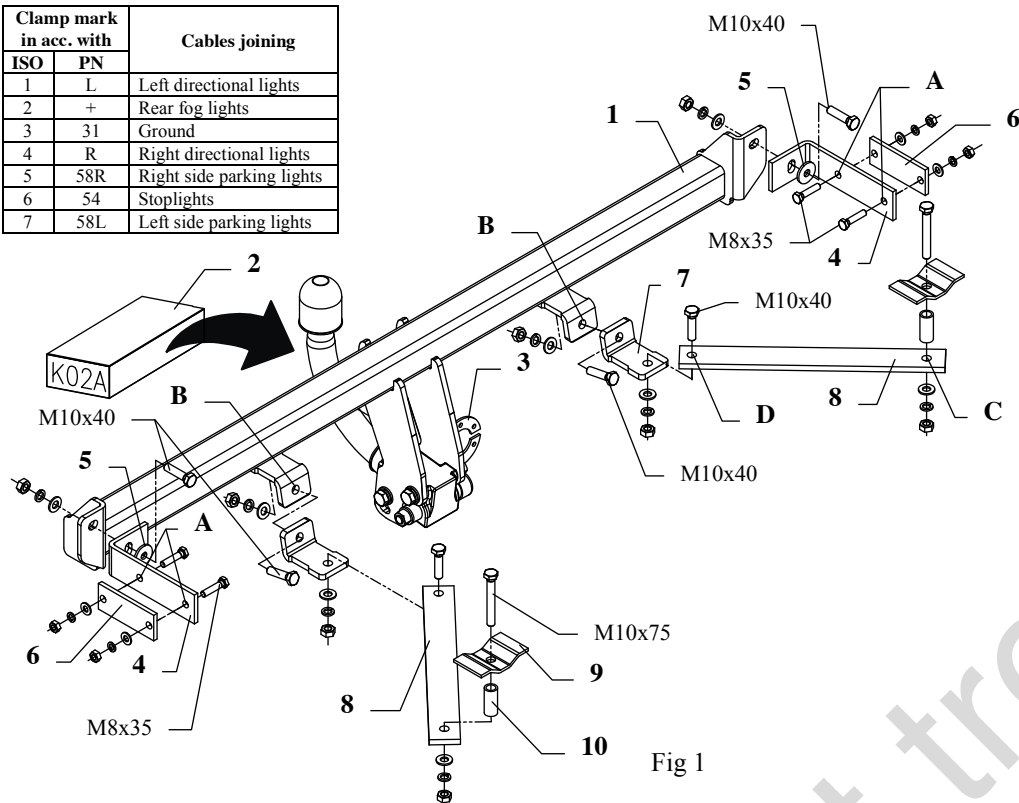
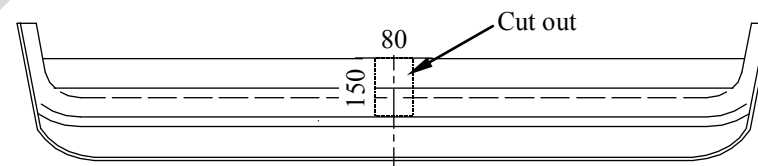

Fig 1
Fig. 2
3. Apply the main bar of the towbar (pos. 1) on bored holes and fix using bolts M10x40mm (pos. 12) through brackets (pos. 4), which one ought to place inside the trunk (on the right and left side). Use washers $\varnothing 30 \times \varnothing 10,5 \times 2,5\text{mm}$ (pos. 5).
4. Through holes (pos. A) of brackets (pos. 4) drill holes $\varnothing 9\text{mm}$ and then fix using bolts M8x35mm (pos. 13) through plate (pos. 6).
5. Through holes (pos. B) of the towbar drill (in the back piece) holes $\varnothing 11\text{mm}$ and fix with bolts M10x40mm (pos. 12) through angle brackets (pos. 7), which one ought to place from the internal side of the back piece, as showed on the fig. 1.
6. In the chassis member are holes $\varnothing 11\text{mm}$ (from the bottom of the car by piece from the right and left side), which one ought to drill throughly with the bit $\varnothing 11\text{mm}$. Then, in part trunk, drill on the diameter $\varnothing 17\text{mm}$. Into so prepared holes put distance sleeves L=39mm (pos. 10), apply fish-plates (pos. 9) and put bolts M10x75mm (pos. 11), as showed on the fig. 1.
7. So prepared elements of the towbar fix with jibs (pos. 8) in marked points (pos. C and D).
8. Install the bumper after cut out of its fragment $80 \times 150\text{mm}$, as showed on the fig. 2.